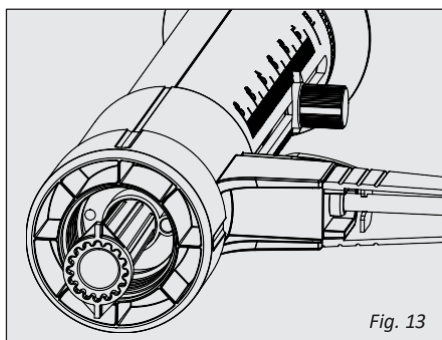
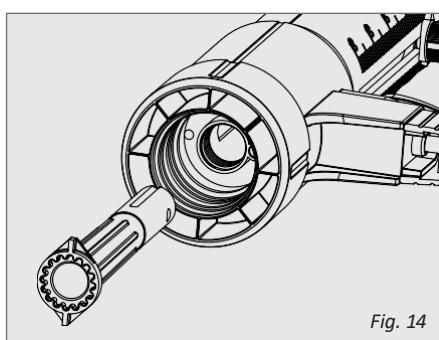

Fig. 13
Fig. 14
3. Use the other side of service tool for screwing with inner valve (Fig. 13) and pull it out- (Fig. 14)
4. After Cleaning/Replacement, insert inner valve at same position (Fig. 14)